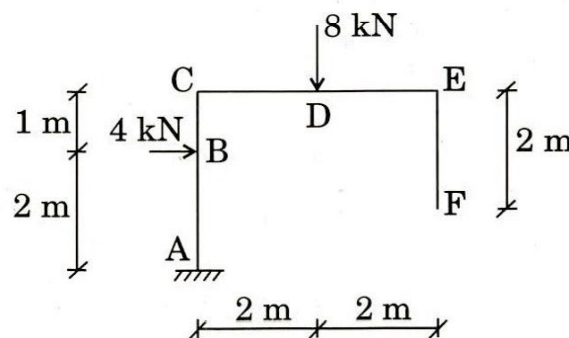

Figure 5
- (c) Determine the horizontal deflection at F for the frame shown in Figure 5. Take  $EI = \text{constant}$ .